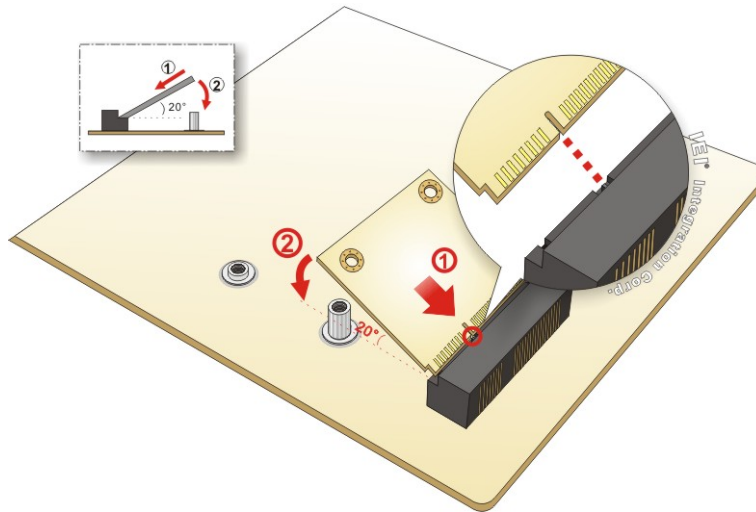

**Figure 4-6: Installing the Standoff**
**Step 3:** Install the previously removed standoff to the screw hole for the half-size mSATA module (**Figure 4-6**).